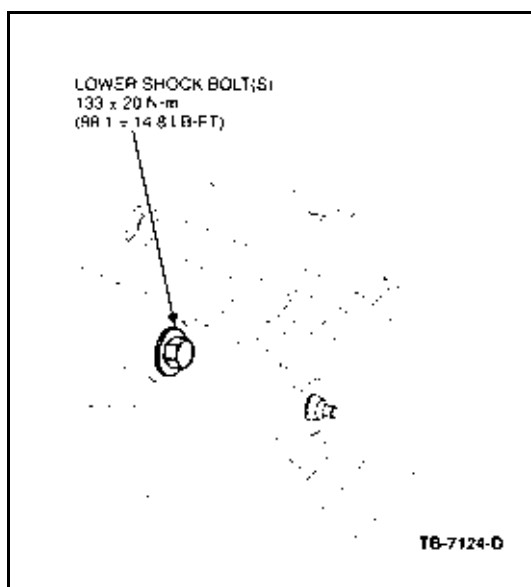

Figure 2 - Article 03-9-5
- Lower shock bolts (both sides) (Figure 2) - 98.1 ± 14.8 Lb-ft. (133 ± 20 N•m)